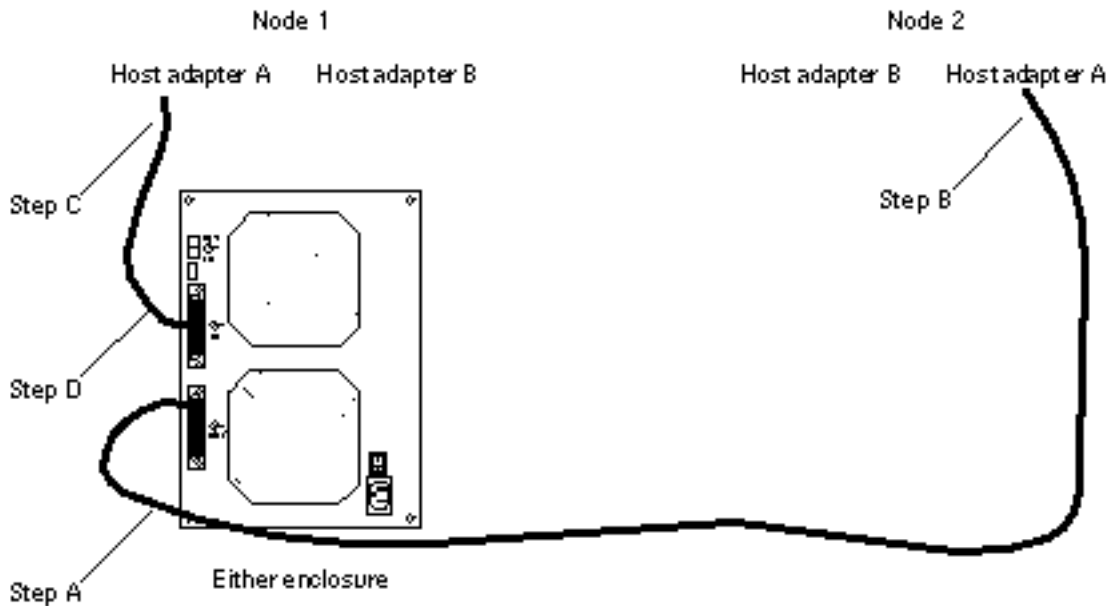

Figure 4-5 Disconnecting the SCSI cables
2. Disconnect the SCSI cables from the enclosure, removing them in the order shown in Figure 4-5.